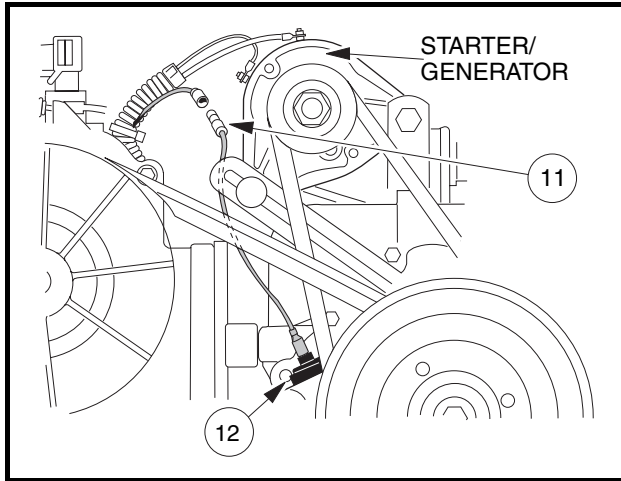

Figure 13-2 Oil Level Sensor Wire
1. Remove yellow jumper wire (11) from cord connector (12) (**Figure 13-2, Page 13-4**).
2. Disconnect the oil level sensor wire (2) from the cord connection (1) (**Figure 13-2, Page 13-4**).
3. Remove the screw (3) from the wire clamp (4).
5. If necessary, remove the three screws (7) that hold the sensor to the bracket (5).
5. Connect the yellow jumper wire (11) to the cord connector (12) (**Figure 13-2, Page 13-4**).